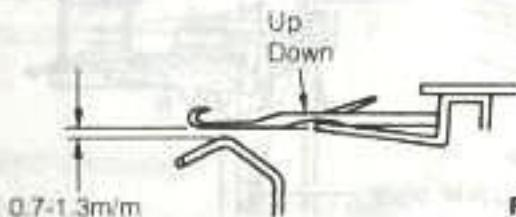

Fig.11
Please check the clearance between KR-gate pegs and the back of the needles of KH. (See Fig.11) If the dimension is wrong, adjust by the function of slide plate assembly. (Height adjuster plate.) See Page 1 for your reference. (From (1) to (3) of 1.2) (See Fig.10)